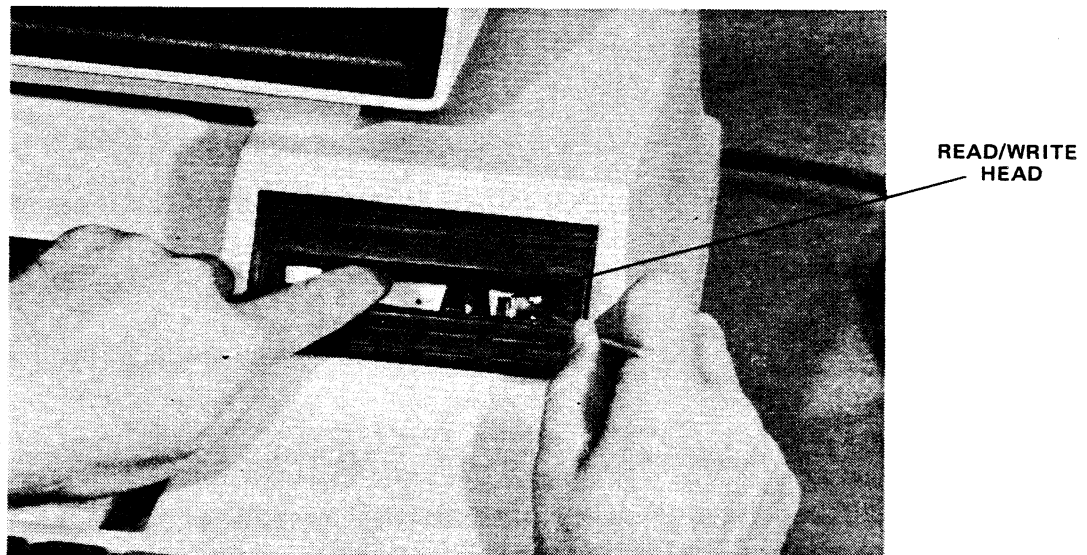

Figure 3-1. Tape Unit Head Cleaning
2. Hold the tape unit door open with your finger as shown in Figure 3-1 and clean the head with a back-and-forth motion of the swab. The head is the shiny surface, inside, at the back of the unit.